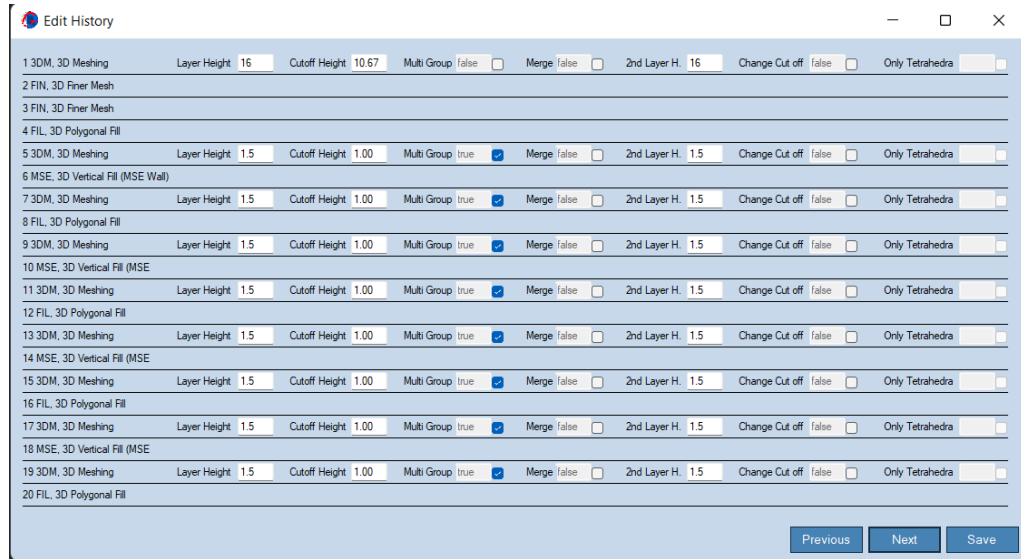

Figure 6: Geo Meshing History – Edit, edits option in history.
- **Edit:** This option enables to edit the recorded events in the history window (section 4b)). Figure 6 shows the dialog windows for this option. Currently, only “3D Meshing” events are editable.